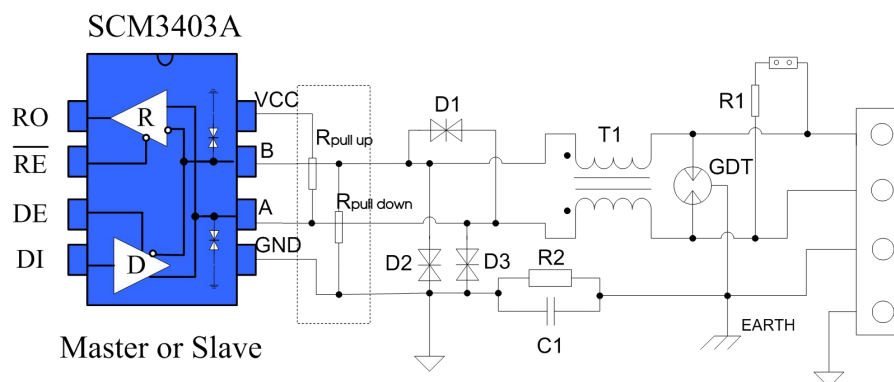

Figure 12. Port safeguard scheme
3. Bus port protection: In harsh environments, RS485 communication ports usually have additional protection against static electricity protection, lightning surge protection, and even need to prevent 380V power supply access to avoid smart meters and industrial control hosts. Damage. Figure 12 shows common RS485 bus port protection schemes. To protect the module's A / B lines with external components such as TVS tube, common mode inductors, Gas discharge tube, shielded twisted pair of wires with the same single network Earth point. This recommendation is for reference only and may have to be adapted accordingly with appropriate component values in order to match the actual situation and application.